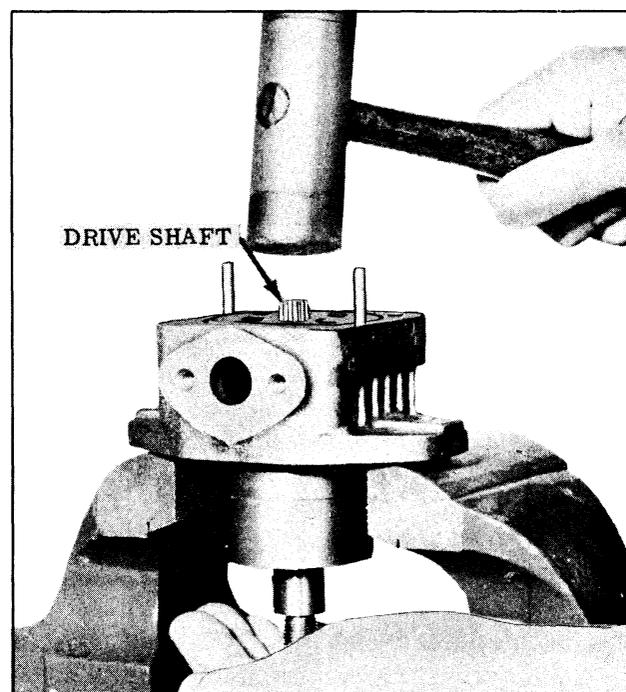

Fig. 5-75 Drive Shaft Removal
9. Tap drive shaft out of pump body. (Use a plastic hammer). (See Fig. 5-75)